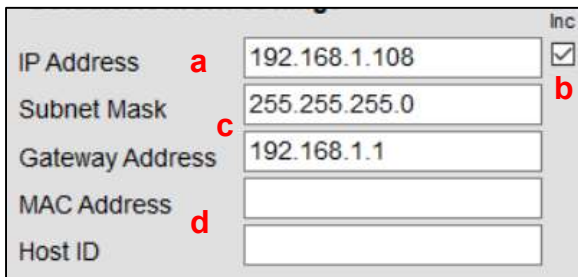

Figure 6
F. **Default Network Settings section (figure 6):**